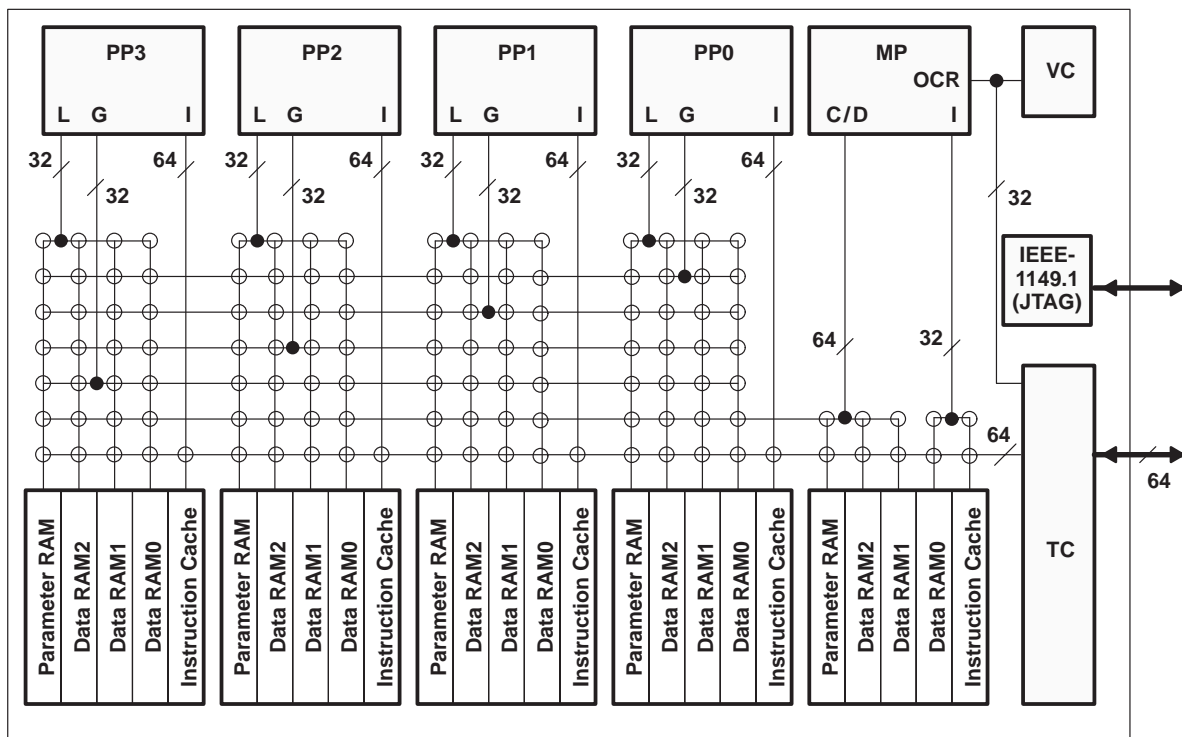

Figure 1. Block Diagram Showing Datapaths
Figure 1 shows the major components of the 'C80: the master processor (MP), the parallel digital signal processors (PPs), the transfer controller (TC), the video controller (VC), and the IEEE-1149.1 emulation interface. Shared access to on-chip RAM is achieved through the crossbar. Crossbar connections are represented by  $\circ$ . Each PP can perform three accesses per cycle through its local (L), global (G), and instruction (I) ports. The MP can access two RAMs per cycle through its crossbar/data (C/D) and instruction (I) ports, and the TC can access one RAM through its crossbar interface. Up to 15 simultaneous accesses are supported in each cycle. Addresses can be changed every cycle, allowing the crossbar matrix to be changed on a cycle-by-cycle basis. Contention between processors for the same RAM in the same cycle is resolved by a round-robin priority scheme. In addition to the crossbar, a 32-bit datapath exists between the MP and the TC and VC. This allows the MP to access TC and VC on-chip registers that are memory mapped into the MP memory space.